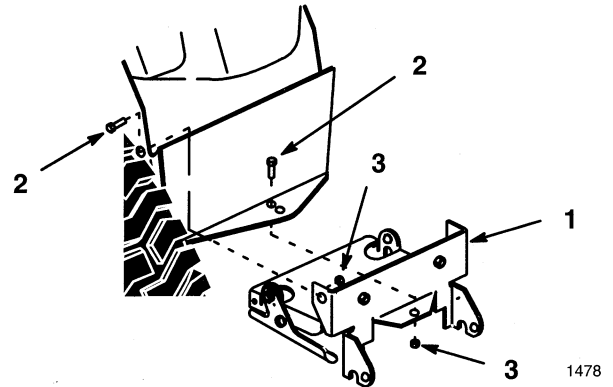

Figure 7
5. Install rear mounting plate\blade bracket assembly under and inside rear frame member with short tongue rearward (Fig. 7). Secure with bolts and lock nuts at holes in frame side members and tongue forward hole (Fig. 7).